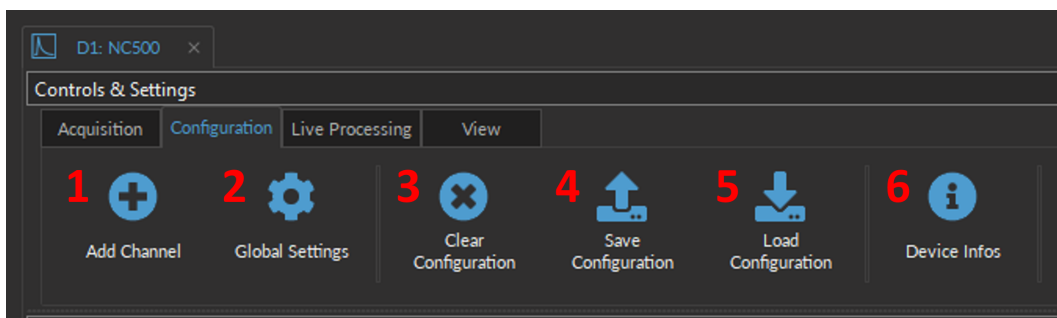
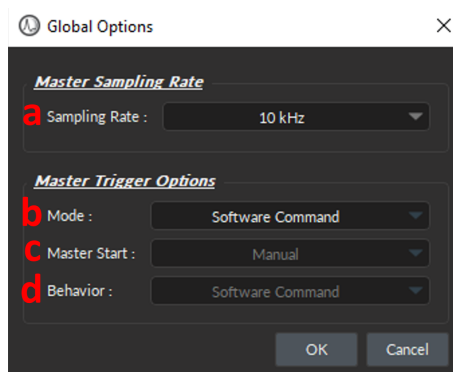
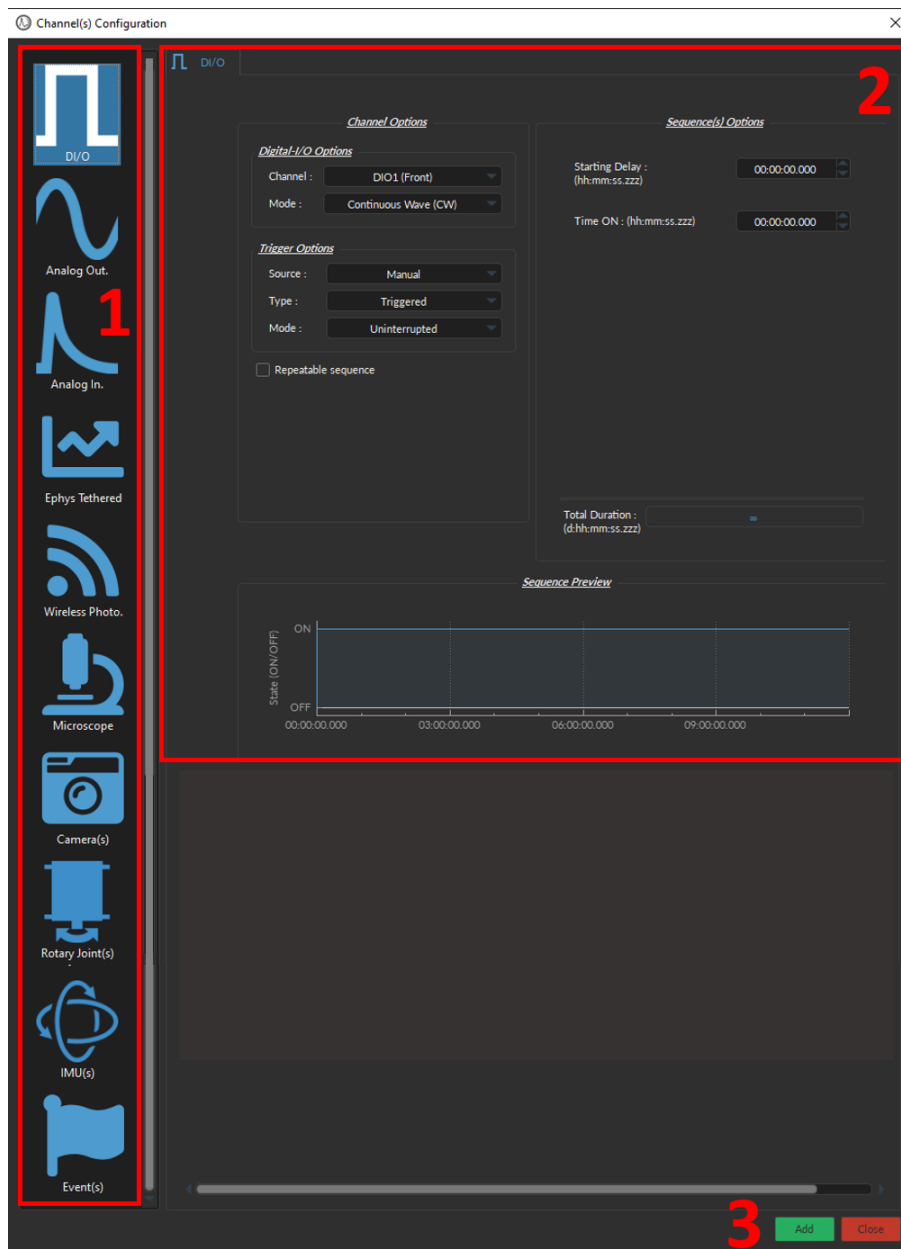

Figure 11.23: Configuration Tab
Figure 11.24: Global Options Window
Figure 11.29: Channel Configuration window
1. The **Add Channel** button (Fig. 11.23, 1) opens the **Channels configuration** window. How to *add* and *configure* a channel is detailed in Section 11.6.
2. The **Global Settings** (Fig. 11.23, 2) opens the **Global Options** window in Fig. 11.24, where the user can set the acquisition sampling rate and specify the master trigger options. Specifically:
- a) The **Master Sampling Rate** (Fig. 11.24, a) sets the number of data points collected per second. Its value is set at 10kHz by default. See section 11.3, no. 3 to enable the *Decimation* and effectively reduce the saving sampling rate and restrict the data file size.
- b) The **Mode** (Fig. 11.24, b) of the **Master Trigger Options** sets the origin (internal, external or time-series) of the trigger that will start the recording session and synchronize all the external and internal devices. Four options are available for different use cases:
- c) The **Master Start** (Fig. 11.24, c) defines the source that automatically starts the recording. This source can either be:
- d) The **Behavior** (Fig. 11.24, d) defines the source of the **Master Trigger** for the **Camera Channels** (see Section 11.6.5).
3. The **Clear configuration** button (Fig. 11.23, 3) resets the acquisition view by removing all configured channels and parameters. Any un-saved configurations will be permanently lost.
4. The **Save configuration** button (Fig. 11.23, 4) allows a console configuration to be saved in the **.doric** format. This file preserves the channel configuration/parameters, the Acquisition View window organization, and any custom trace colors and names.
5. The **Load configuration** button (Fig. 11.23, 5) imports a pre-configured **.doric** file into the module.
6. The **Device Infos** button (Fig. 11.23, 6) opens a pop-up window (Fig. 11.25), which includes the following:
The **Time Series** Window (Fig. 11.26) can be opened by clicking on the **Record** button (Fig. 11.7, 2) when the **Master Trigger** is in **Time Series** mode in the **Global Settings** window (Fig. 11.24, 2). Every **Time Series** sequence is automatically saved to the **.doric** file defined in **Saving Options** (Section 11.3, no. 3).
To create a new channel, regardless of the input and/or output type, select the **Add Channel** button, which can be found under the **Configuration** tab (Fig. 11.23). This will open the **Channel(s) Configuration** window (Fig. 11.29).
To generate a new **Channel** using the **Channel(s) Configuration** window (Fig. 11.29):
1. Select one of the available **Channel Type** icons from the left most column of the **Channel(s) Configuration** window (Fig. 11.29). Table 11.1 describes the use case of each type.
3. Select the **Add** button (Fig. 11.29) to generate the defined channel or to update an already configured channel. Note that pressing the **Add** button does not automatically close the *Channel Configuration* window. This allows the user to conveniently set up all required channels one after the other.